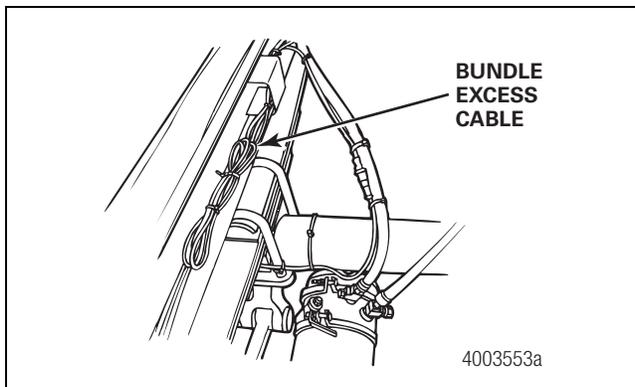

Figure 8
9. Bundle any excess cable in a "Z"-shaped loop. Figure 8.